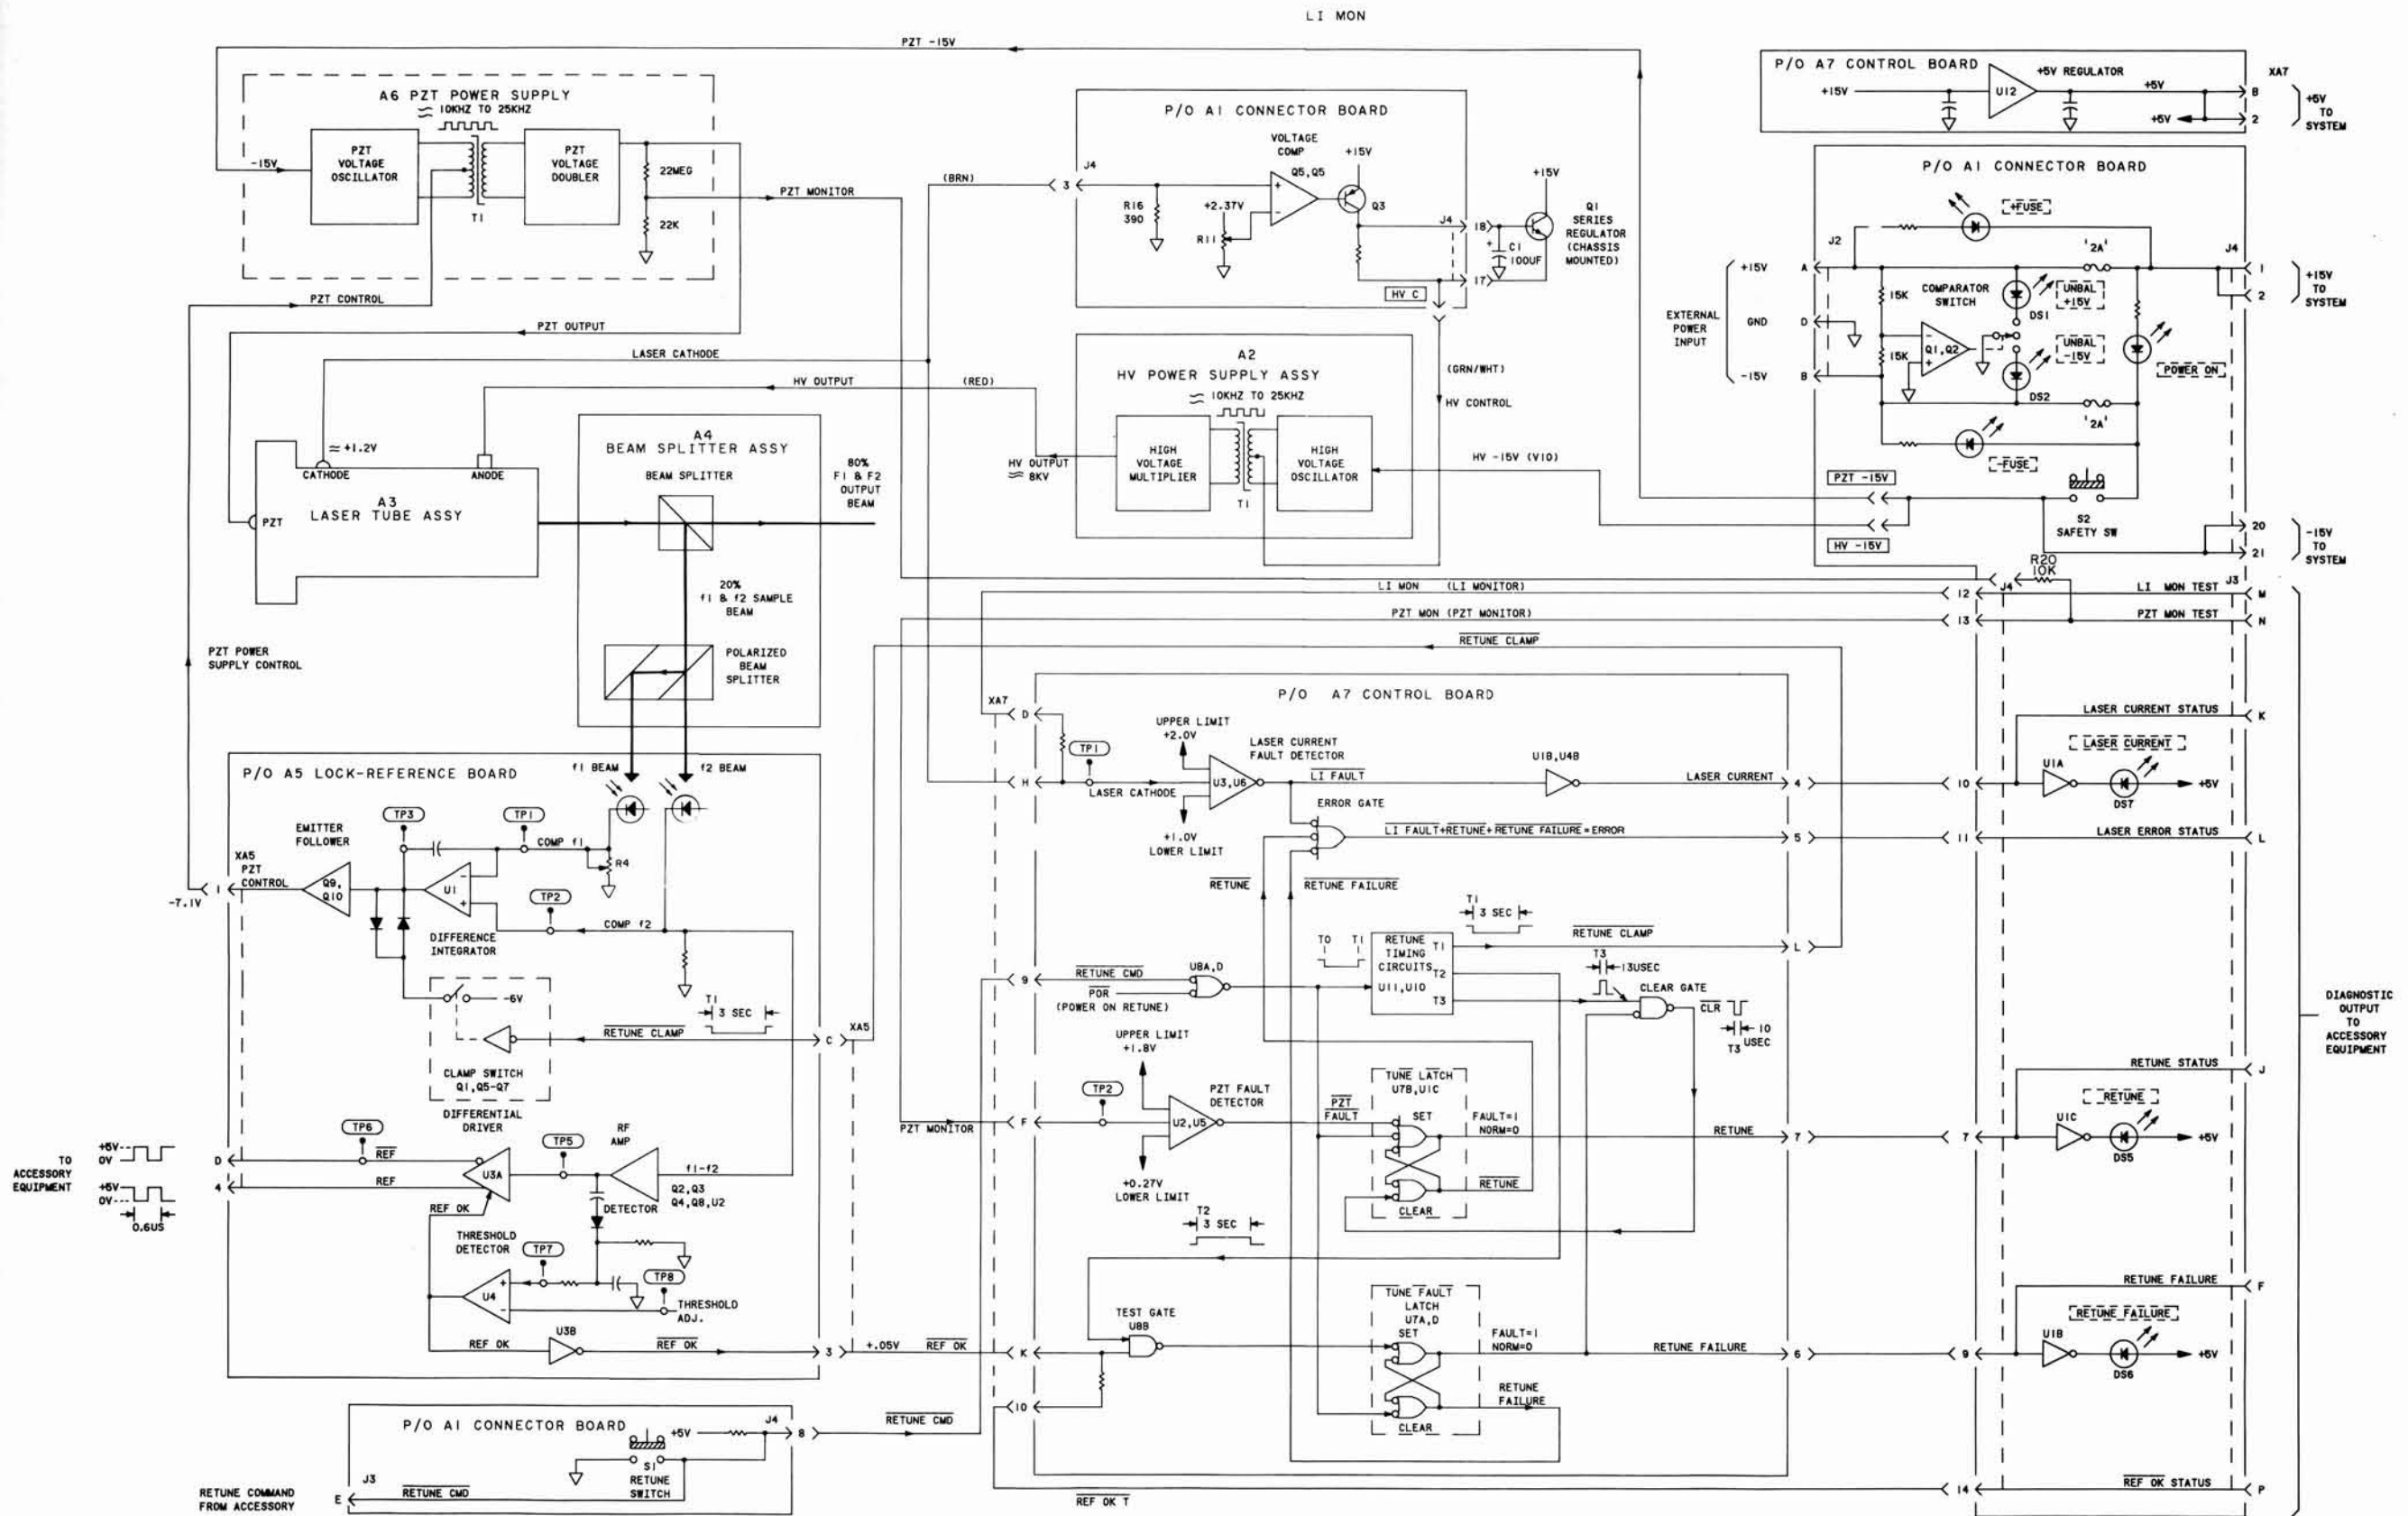

Figure 7-4. Functional Circuit Diagram
- c. A functional diagram of the laser head, Figure 7-4.